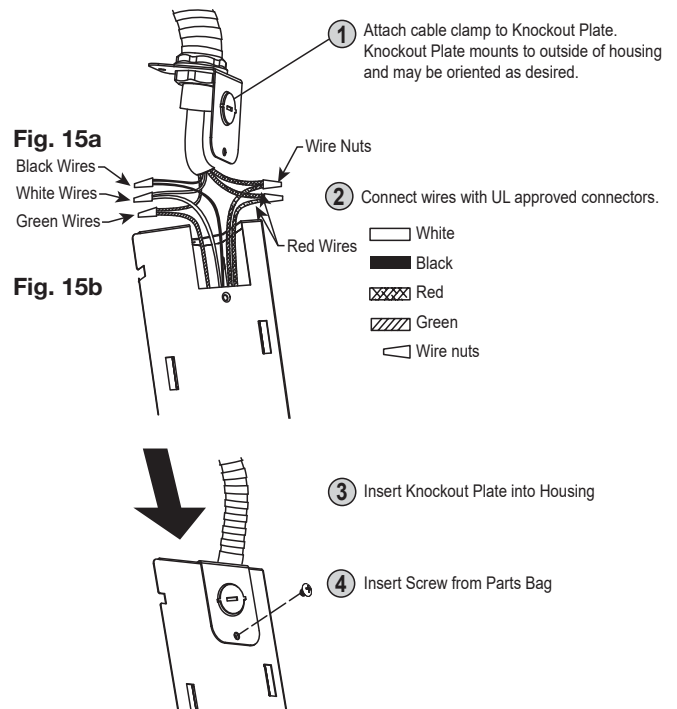

**Fig. 14**
1. Insert the collapsed bracket into ceiling from roomside, then follow steps 3-4 of Installation for New Construction (page 5-6) to complete the bracket installation work. See Fig. 13 and Fig. 14
2. Install circular duct and secure it with clamps or ties and seal the joint/seam with mastic or approved duct tape. Duct adaptor can accept 4, 5 or 6 in. (101.6, 127 or 152.4 mm) circular duct. See Fig. 14